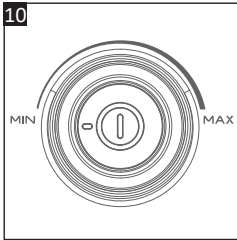

Fig. 10
- Turn the Speed control knob (13) to adjust the suction power according to the type of surface to be cleaned (Fig. 10).